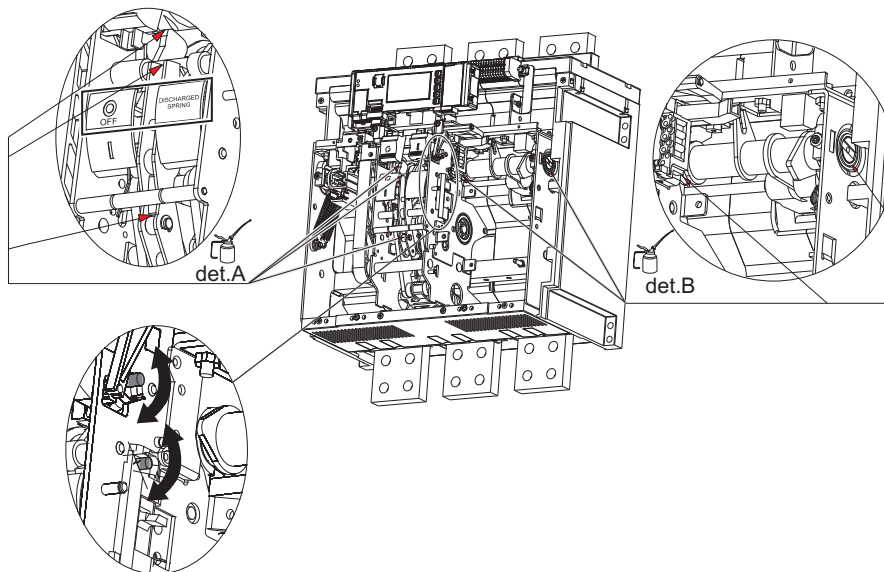

Fig. 28
- Clean (use a cleaning product such as Henkel's 273471 or equivalent if there is a heavy coating of dirt) and lubricate (in the points indicated in figure 28, det. A, as per the First Level) the shafts and opening closing latches.
- Clean (use a cleaning product such as Henkel's 273471 or equivalent if there is a heavy coating of dirt) and lubricate the operating shaft supports, including those on the sides of the circuit breaker (see figure 28, det. B).